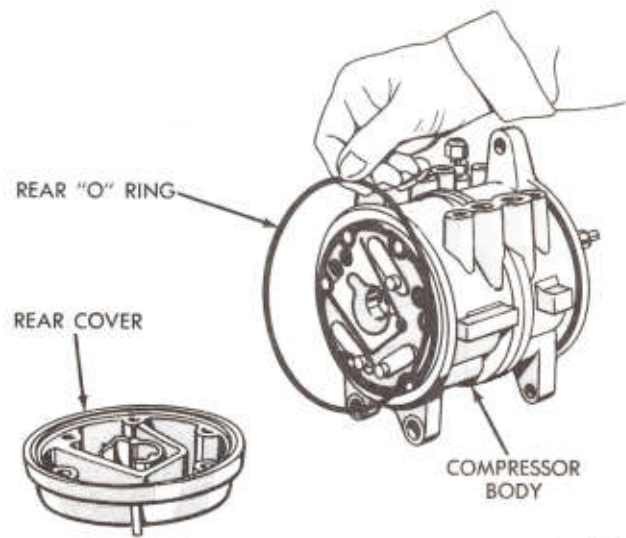

Fig. 10—Removing Rear O-Ring
- (10) Remove O-ring from rear cover and discard (Fig. 10).
- (11) Carefully remove the dowel pins, valve plate,